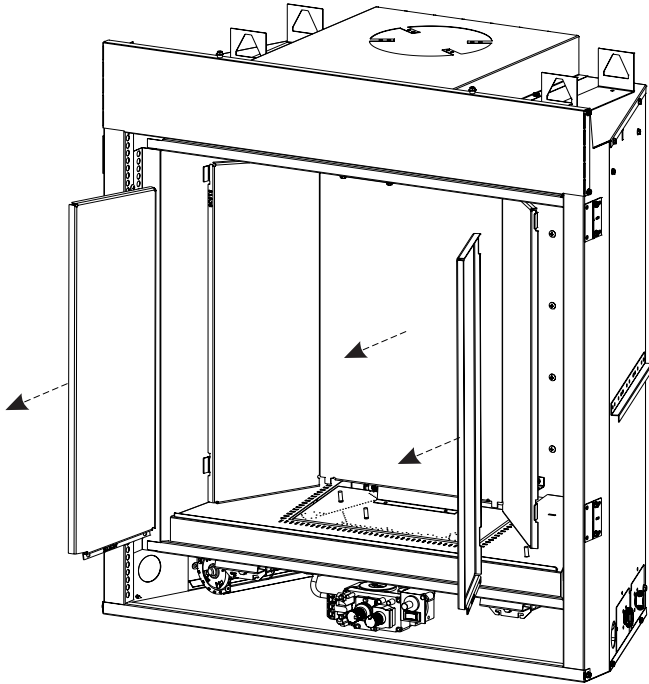

Figure 8
4. Remove log set and decorative media. Remove brackets and liners if installed. Retain for re-installation. **See Figure 8.** (Reflective liners shown.)